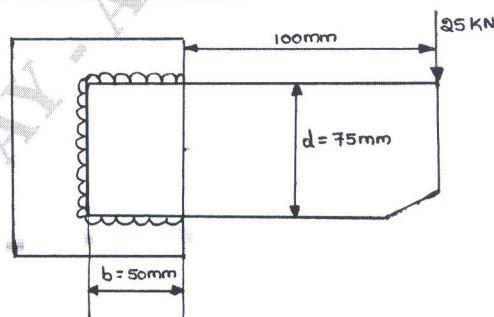

Fig.Q8(b)
- b. Determine the size of weld required for an eccentrically loaded weld as shown in Fig.Q8(b). The allowable stress in the weld is  $75 \text{ N/mm}^2$ .